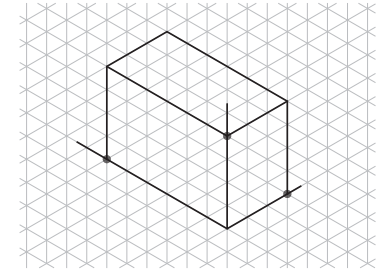

Figure 3-13. Sketch in the top edges of the box.
5. Draw the top edges of the box. See **Figure 3-13**.